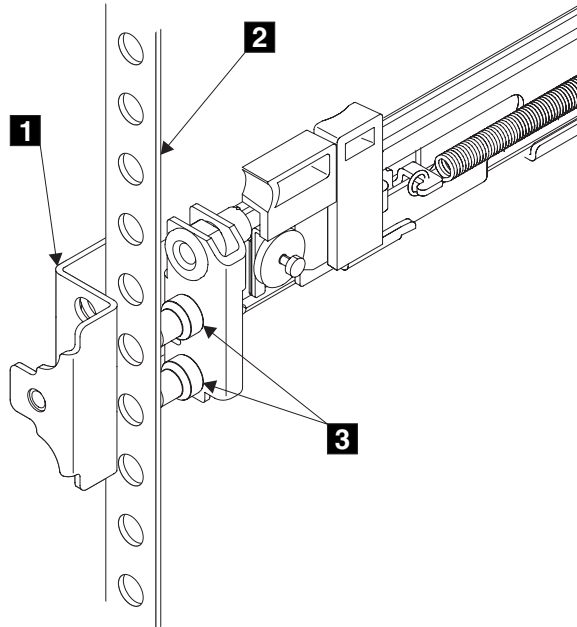

Figure 94. Installing the front end of the rail
6. Place the front end of the left rail in the rack cabinet. Align the top of the front bracket **1** (Figure 94) with the required EIA marking that is on the rack.